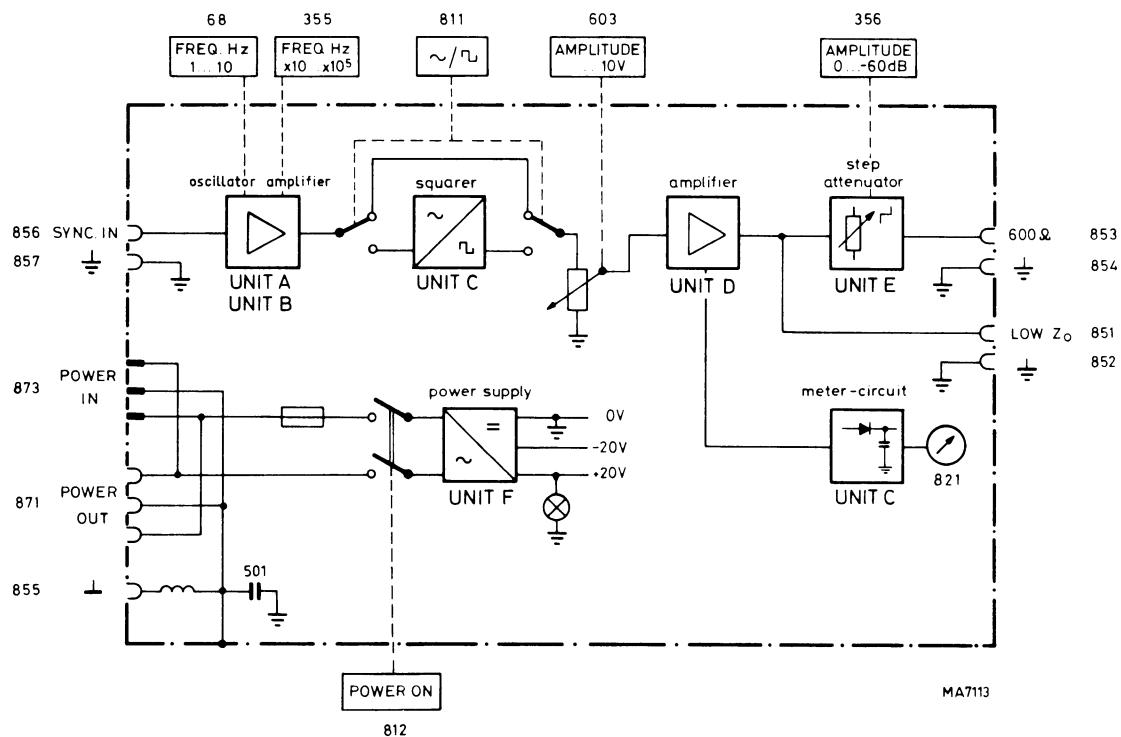

Fig. 4. Block diagram
1.4. DESCRIPTION OF THE BLOCK DIAGRAM (See Fig. 4)